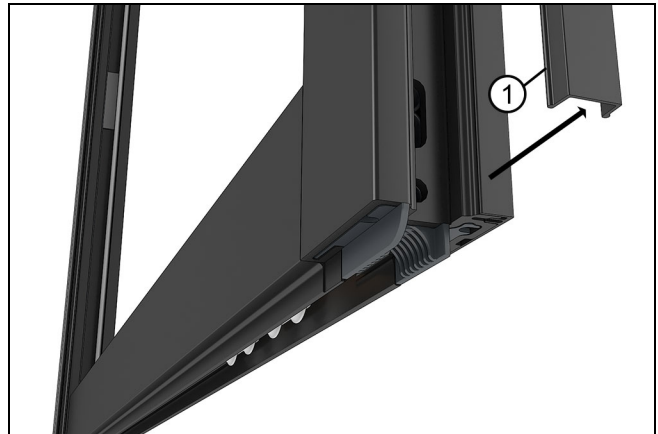

Figure 187
3. Remove the locking stile roller adjustment hole cover. See Figure 187.